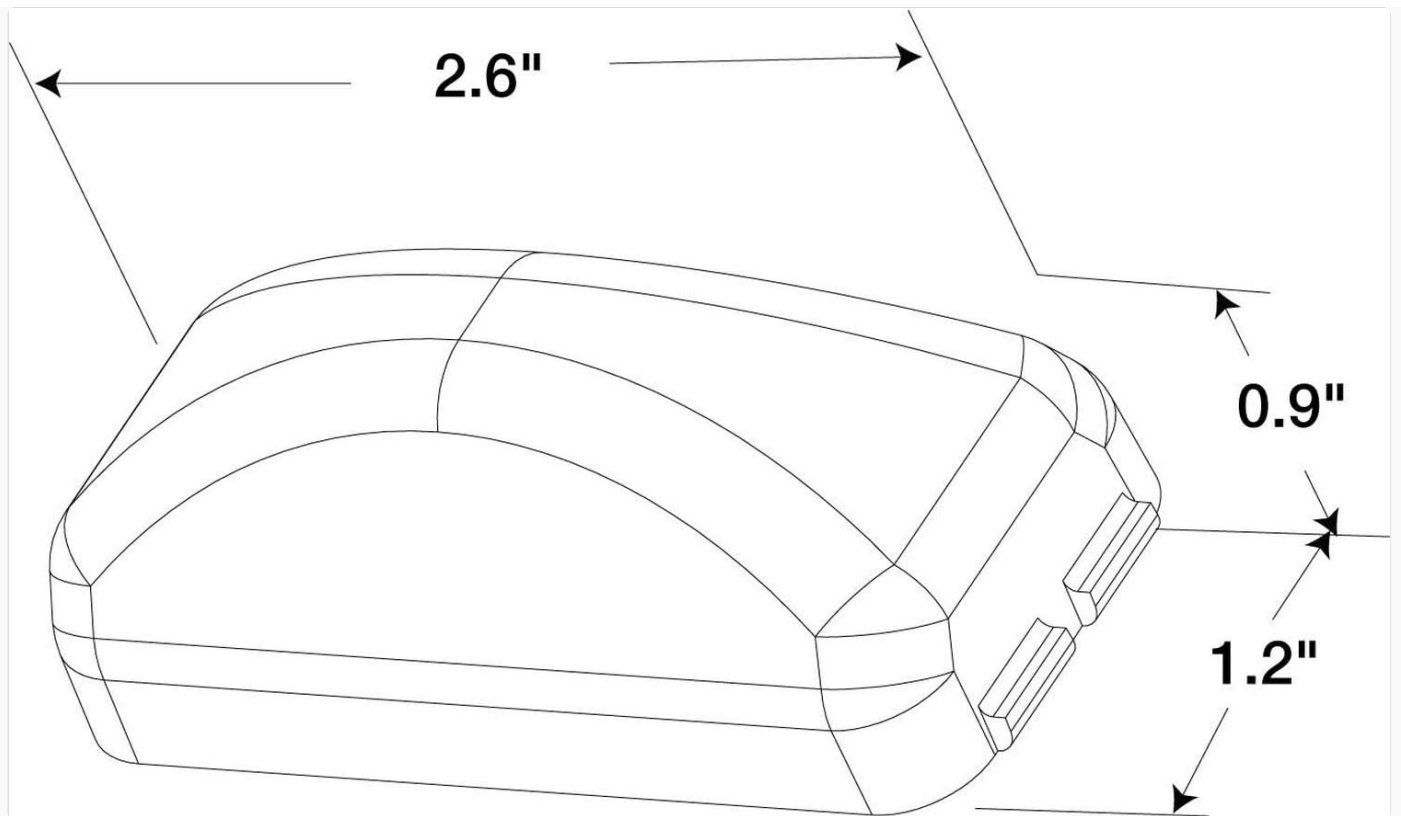

Figure 4.4: Dimensional drawing of the lamp, showing approximate measurements of 2.6 inches (length), 1.2 inches (width), and 0.9 inches (height).
1. **Choose Mounting Location:** Select a suitable flat surface on the vehicle's exterior for mounting. Refer to Figure 4.4 for lamp dimensions to ensure proper fit and compliance with local regulations.